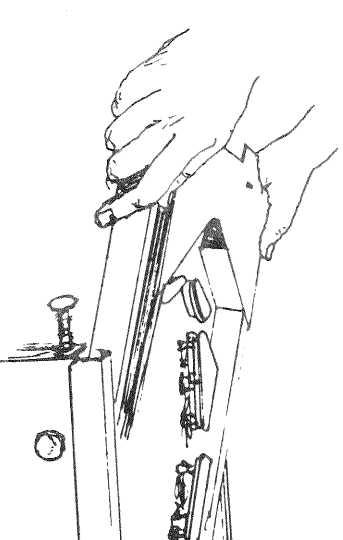

FIGURE 8
6. While continuing to stand at the end of the unit, pull the playfield toward you until the rear edge of the playfield drops into the slots cut into the playfield ledge (Figure 8).